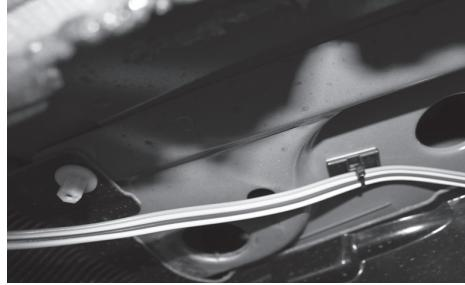

Figure 8
12. Once 4-flat is routed behind trim panel, place cable tie pad to frame of vehicle shown in **Figure 8** and secure 4-flat with cable tie provided.